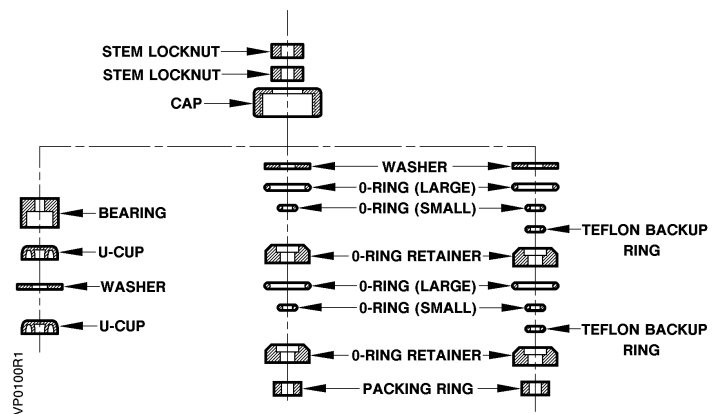

Figure 3. Previous and Current Packing Configurations.
8. Remove and discard all packing. See *Figure 3* which shows the various packing configurations you will find depending on the model of the valve. Do not reuse any of these components.